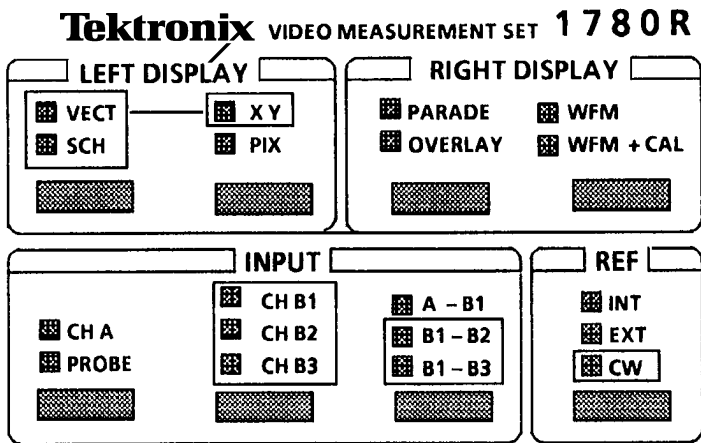

Figure 3-11: Portion of the 1780R-Series Front Panel
- 1.** Select the SCH mode of operation by pushing the SCH / VECT button, shown in Figure 3-11, until the SCH LED lights. Two pushes may be required, depending on the previous condition.
Select the Parade mode of operation by pushing the PARADE/OVERLAY button, shown in Figure 3-11, until the Parade LED lights. Two pushes may be required, depending on the previous condition.